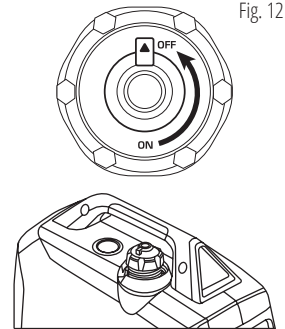

Fig. 12
6. After the generator stops, allow it to cool down and close the air vent on the fuel cap (set to OFF, as shown in Fig. 12, when switching off gasoline operation for KS 2000iS CO, KS 2000iHS CO, KS 6000iES CO and KS 6000iEHS CO models).